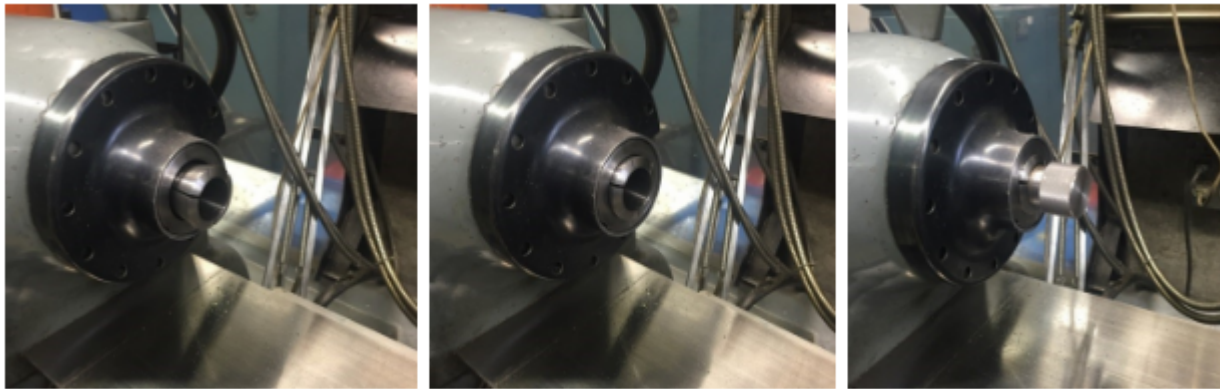

Figure 3: Collect chuck
3. L = Select High/Low lever (See Figure 3)
4. C = Select Feed Ranges and change to C on this lever (See Figure 3)
5. S = Select Feed Ranges and change to S on this lever (See Figure 3)
6. 8 = Select Gear Box and change to 8 on this lever (See Figure 3)
7. W = Select Feed Ranges and change to W on this lever (See Figure 3) Before turning on the lathe, be sure all levers are fully engaged by turning the headstock spindle by hand, and see that the feed rod turns.